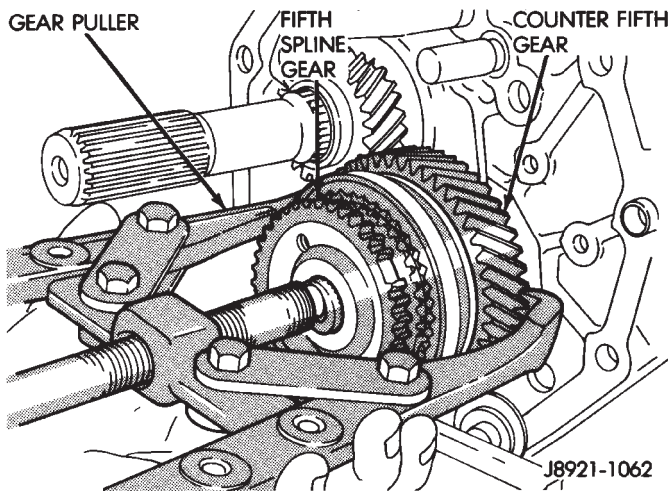

Fig. 32 Loosening Fifth Spline Gear
(13) Loosen fifth spline gear with standard two-jaw puller (Fig. 32). Position puller jaws **behind fifth counter gear** as shown.